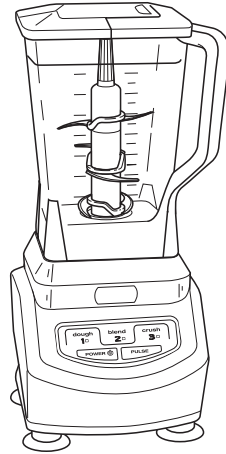

Fig. 9
- 2** Add the ingredients and secure the pitcher lid onto the pitcher. (**Fig. 9**)